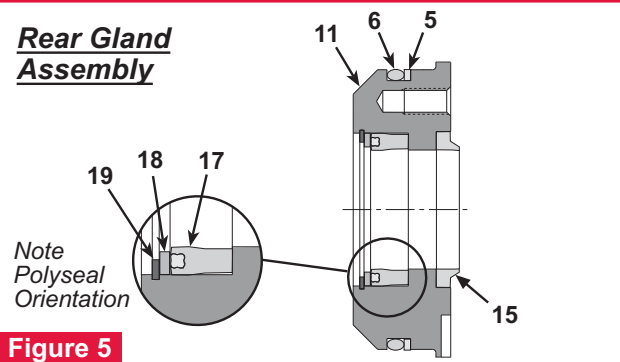

Figure 5
10. Install O-ring (6), Back-up Ring (5), Polyseal (17), Spacer (18) and Retaining Ring (19) in Rear Gland (11). (Fig. 5)
12. Press Wiper (15) into groove in Rear Gland.
13. Align recess in Rear Gland with groove in Cylinder, and install Locking Disc (16).
14. Screw Barbed Retainer (13) into Cylinder until it bottoms out. Back Retainer out to first visible threaded hole in Rear Gland. Install and tighten Socket Head Screw (12) to 40 +/- 3in/ lbs.